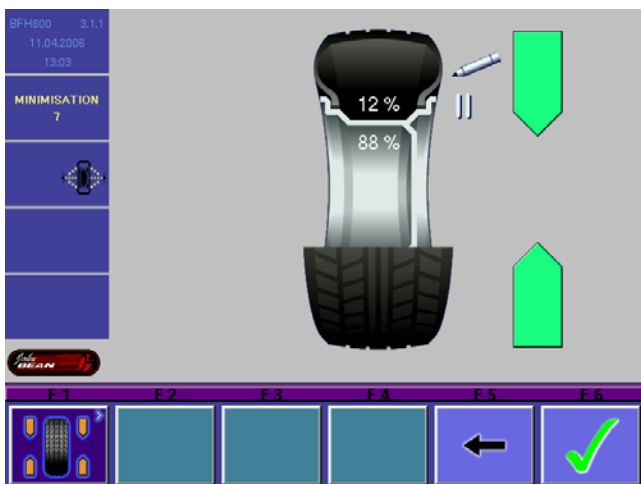

Figure 35
9. Rotate the assembly until the arrows turn Green as shown in Figure 35. Mark the tire with two (2) marks.